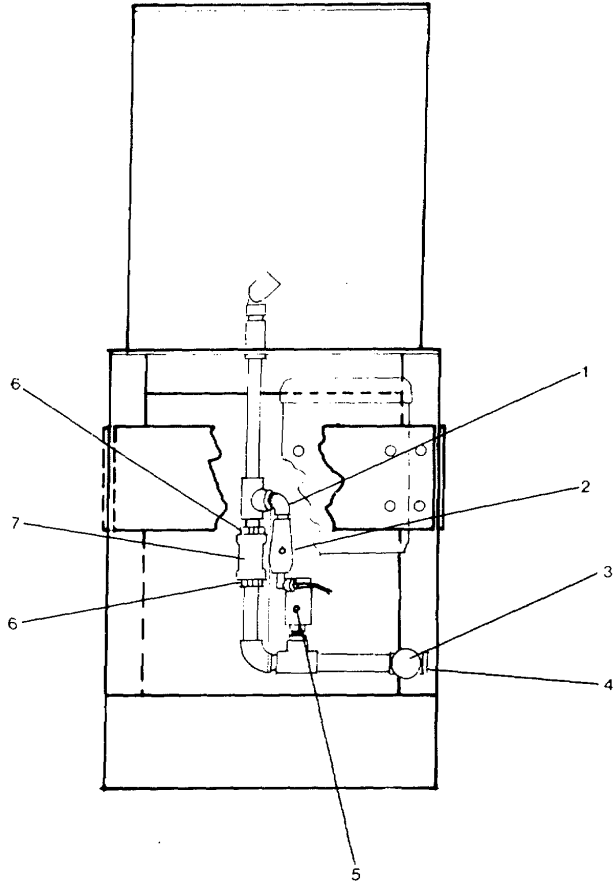

Figure 2-23. Backwash Water Piping Group.
- a. Remove the gate valve (3, FIGURE 2-23):
- (1) Disconnect the water supply line at the valve inlet (1, FIGURE 2-23).
- (2) Remove the gate valve (3) from the pipe nipple.
- b. Remove the dial indicating pressure gauge (5, FIGURE 2-23):
- (1) Loosen the locknut at the base of the gauge.
- (2) Remove the gauge by turning it counterclockwise.
- c. Remove the backwash water solenoid valve (2, FIGURE 2-23):
- (1) Disconnect the electrical cable from the solenoid valve (paragraph 2-18).
- (2) Disconnect the solenoid valve from the piping elbow (1, FIGURE 2-23).
- d. Remove the ball check valve (7, FIGURE 2-23):
- (1) Disconnect the check valve at point (6) on each side of the check valve.
- (2) The lower section of piping will be disconnected when the check valve is removed.
- (f) Remove the tubing clamp from bleach tubing (7).
- (3) Connect the electrical cable to the bleach solenoid (paragraph 2-18).
- c. Replace the ball check valve (7, FIGURE 2-23).
- (1) Position the check valve in the backwash piping and connect the hex fittings (6) on each side of the check valve. Make sure the direction of flow through the valve is towards the treatment tank on top of the unit.
- (2) Secure the hex fittings (6) and hand tighten.
- d. Replace the backwash solenoid valve (2, FIGURE 2-23).
- (1) Install the solenoid valve (2) onto the piping elbow at connection (1).
- (2) Connect the electrical cable to the backwash water solenoid valve (paragraph 2-18).
- e. Replace the dial indicating pressure gauge (5, FIGURE 2-23).
- (1) Apply teflon pipe lubricant to the threads of the new gauge.
- (2) Install the gauge into the backwash water piping. Turn the gauge clockwise to install.
- (3) Align the gauge and secure the locknut at the base of the gauge and hand tighten.
- f. Replace the gate valve (3, FIGURE 2-23).
- (1) Apply teflon pipe lubricant to the connections, and install the gate valve (3) to the waterline piping on each side of the valve.
- (2) The water inlet is now connected to the sanitary unit. Close the valve by turning the handle fully clockwise.
- (3) Open the external water supply valve to the sanitary unit. Check for leaks at the inlet (4) of the gate valve (3) and correct as required.
- (4) Open the gate valve (3).